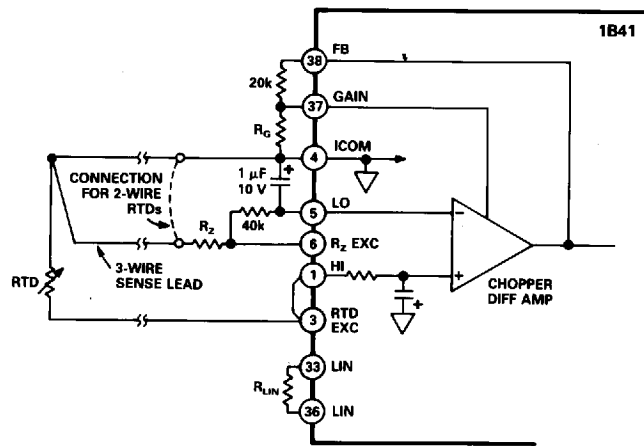

Figure 1. 1B41 Basic Hookup
1All specifications use the test circuit of Figure 1.
**Range Setting:** The gain of the 1B41 is controlled on the input side by a pair of user provided resistors (see Figure 1). A feedback resistor of 20 kΩ ±1% is required between the feedback pin (Pin 38) and the gain pin (Pin 37). The gain setting resistor is connected between the gain pin (Pin 37) and input side common (Pin 4).
For 2-wire RTDs, ICOM (Pin 4) can be connected as shown in Figure 1. This does not compensate for lead wire resistance.